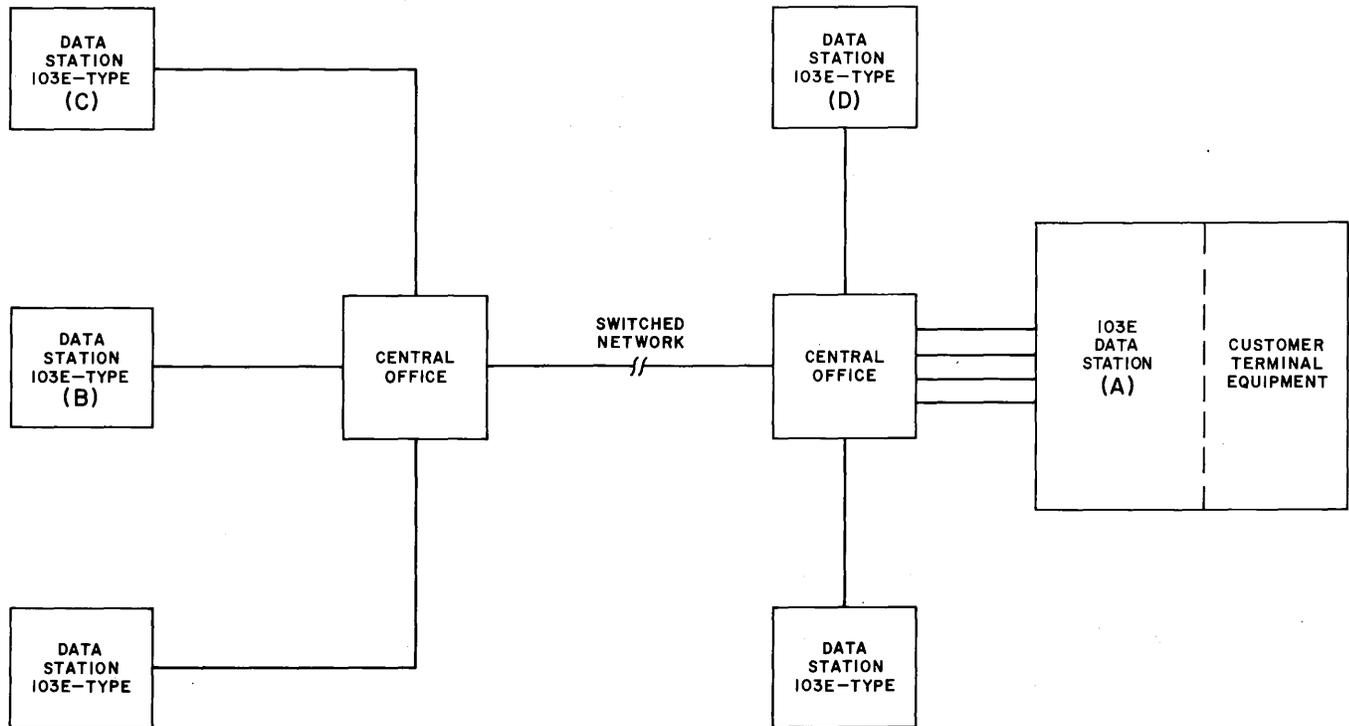

Fig. 2—Data System Using Data Set 103E-Type With a Multiple Data Station Arrangement
1.06 The following description of a typical DATA-PHONE system (Fig. 2) is provided to illustrate the capabilities of the 103E Data Station.